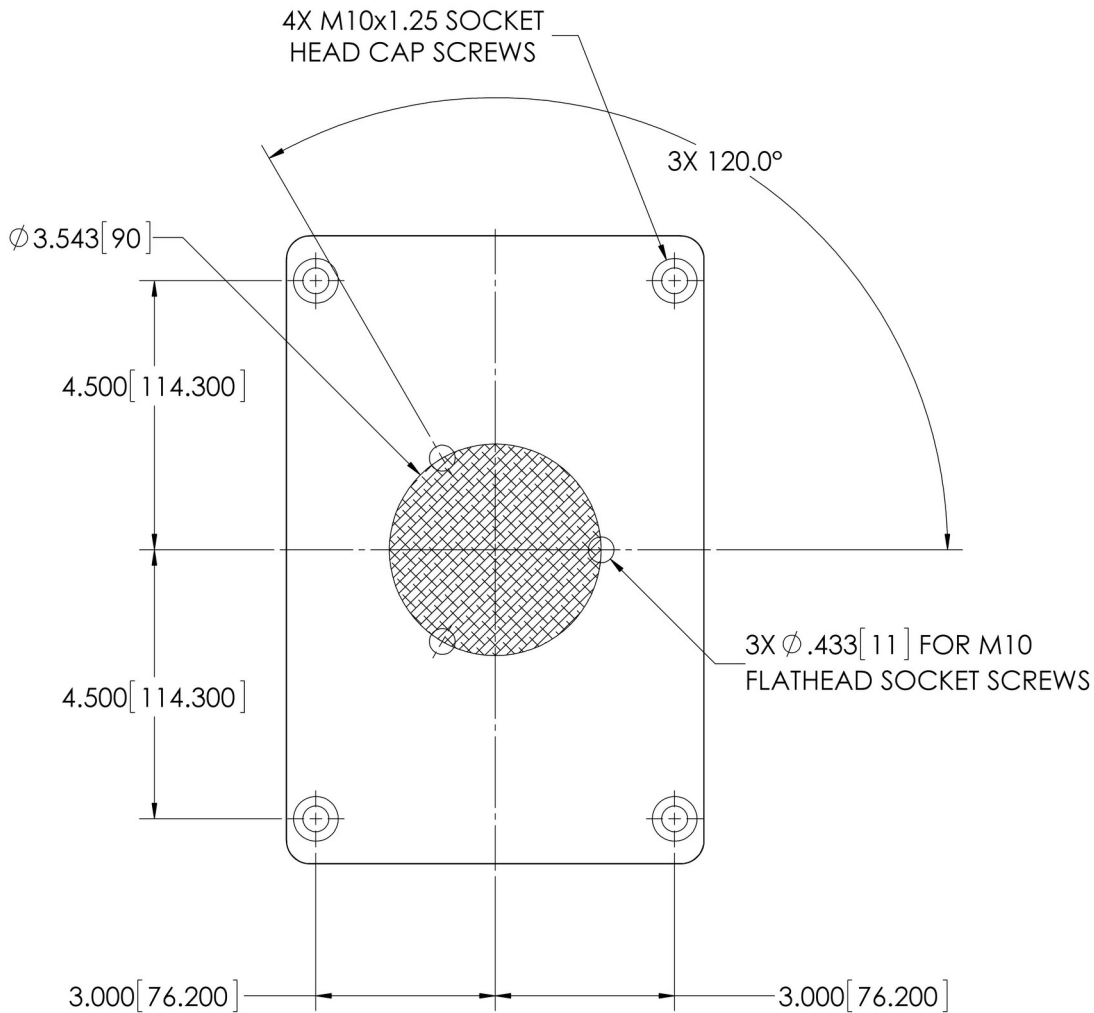

Figure 4: AFD90-2 Mounting Bracket
The AFD90-2 is supplied with a standard Mounting Bracket shown in Figure 4. A minimum of (3) three holes should be utilized to secure the Mounting Bracket to the robot mounting flange.
If additional holes are required, it must first be removed from the device before drilling. Four (4) M10x1.5 Socket Head Cap Screws are used to attach the Mounting Bracket to the AFD92 force device. Once the Mounting Bracket is removed, mounting holes may be placed anywhere within the crosshatched area shown in Figure 4. *PushCorp, Inc.* can supply engineering support to determine the mounting hole locations at no cost.